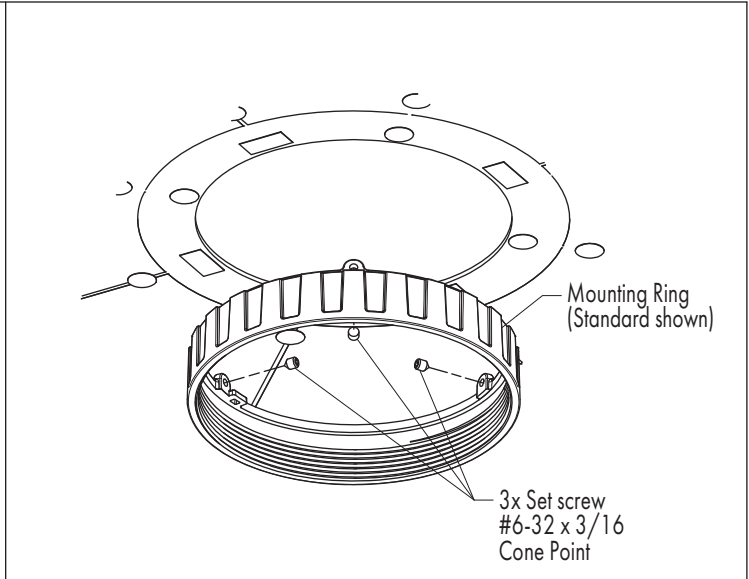

FIG 3.2 Install Mounting Ring
- STEP 3 Insert Mounting Ring lip fully into Housing & fasten with 3x Set Screws using allen key supplied-DO NOT OVERTIGHTEN. Mounting Ring can be installed with or without ceiling in place-**FIG 3.2**.